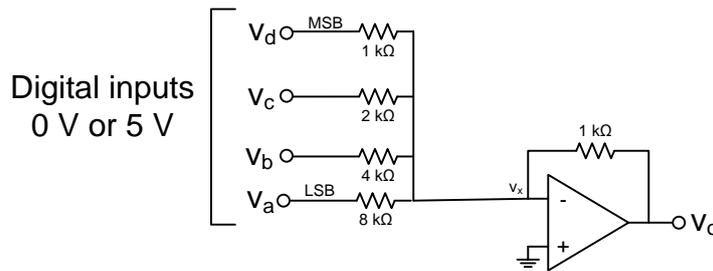

Figure 9: DA converter using summing op-amp.
- (5p) (f) A summing DA converter is shown in Figure 9. Which binary input has been applied to the DA converter if it has an output voltage v_o of -3.1V?